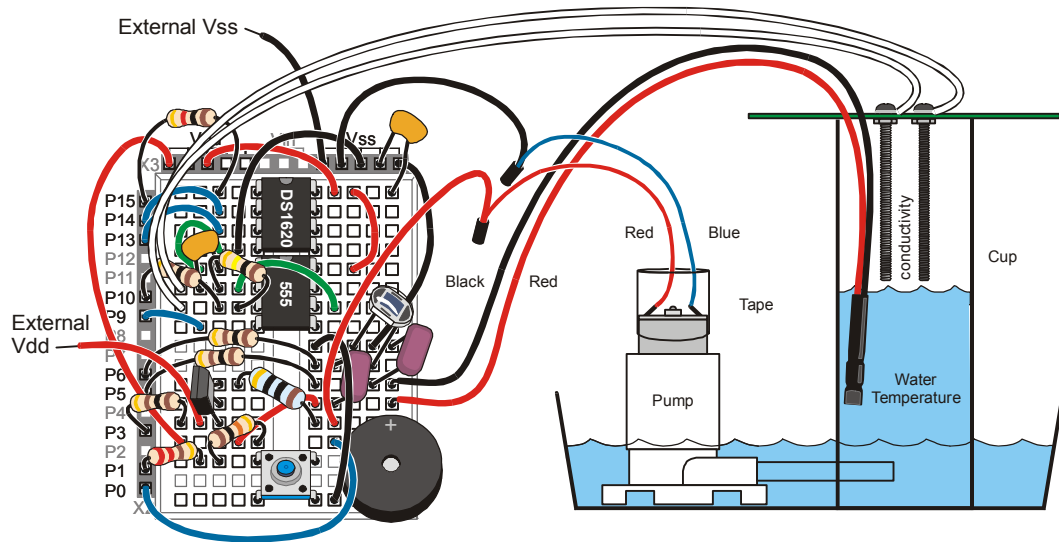

Figure 6-5: Pump Control with Transistor Wiring Diagram for the HomeWork Board
- √ Follow the schematic in Figure 6-4 and the wiring diagram in Figure 6-5 to add the transistor and pump circuit to your HomeWork Board.
- √ As shown in the schematic in Figure 6-5, connect the collector of the transistor to the external regulated 5 VDC 300 mA power supply.